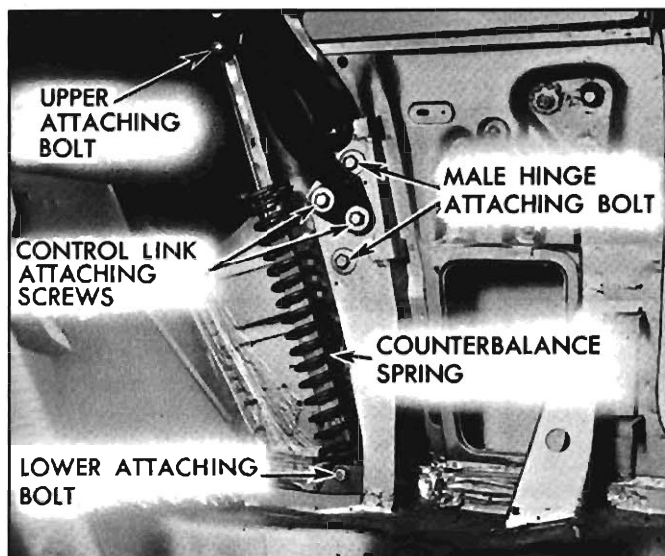

Fig. 37—Top Lift Linkage Attachment at Rear Quarter
- b. Loosen two bolts securing control link adjusting plate sufficiently to permit adjustment of plate (fig. 37).
- b. Loosen male hinge assembly and control link attaching bolts (fig. 37).
3. Remove upper and lower attaching bolts; then remove lift assembly from body (fig. 37).